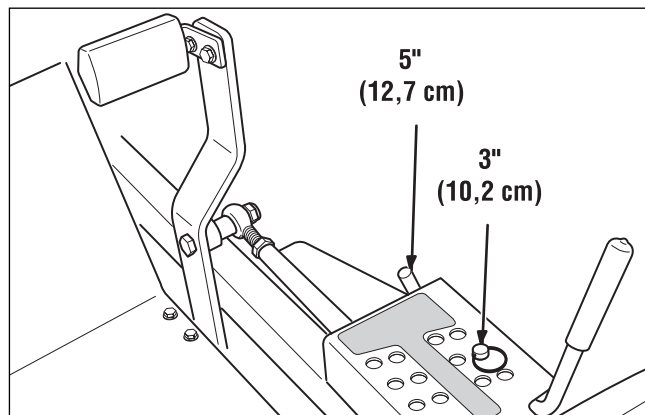

Figure 40. Deck Lift Pedal & Pin Position
5. To ensure that the deck is in the lowest position, push the pedal by hand towards the rear of the unit and install the height adjustment pin in the 3" (7,6cm) position to hold in place. See Figure 40.